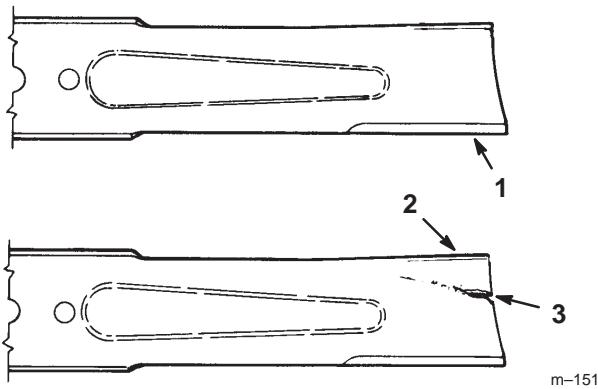

Figure 27
1. Inspect the cutting edges (Fig. 27). If the edges are not sharp or have nicks, remove the blade and sharpen them; refer to Sharpening the Blade, page 27.
2. Inspect the blade, especially the curved area (Fig. 27). If you notice any damage, wear, or a slot forming in this area (Fig. 27), immediately install a new blade.